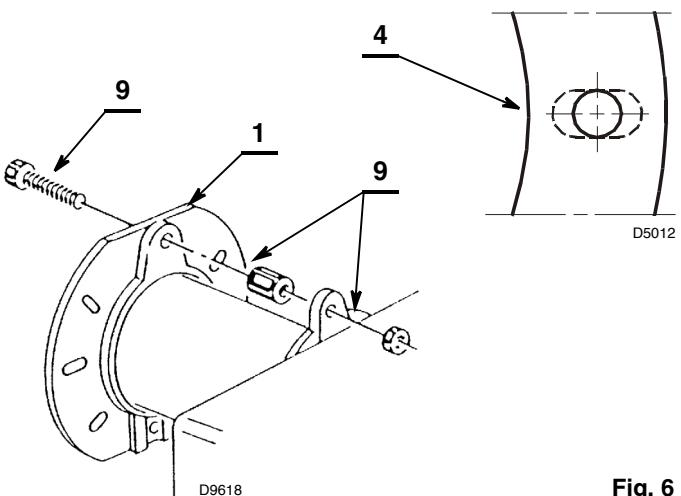

Fig. 6
- insert the screw and two nuts 9) on the flange 1) (Fig. 6);
- if necessary, widen the holes of the insulating gasket 4) (Fig. 6);